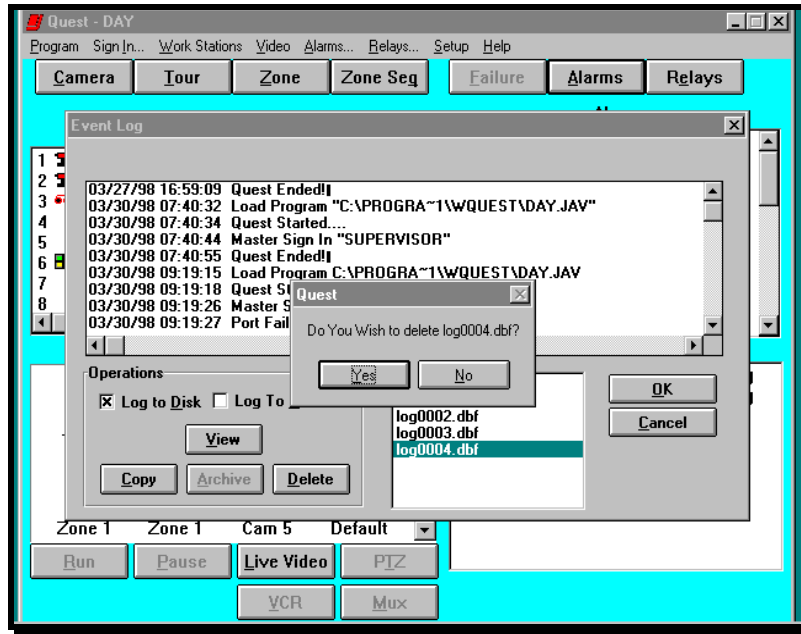

Figure 2-22. Delete Event Log
5. To delete the current event log, select the event log you want to remove and click on the **Delete** button. The File Delete dialog box will be displayed (Figure 2-22). Click on the **Yes** button.